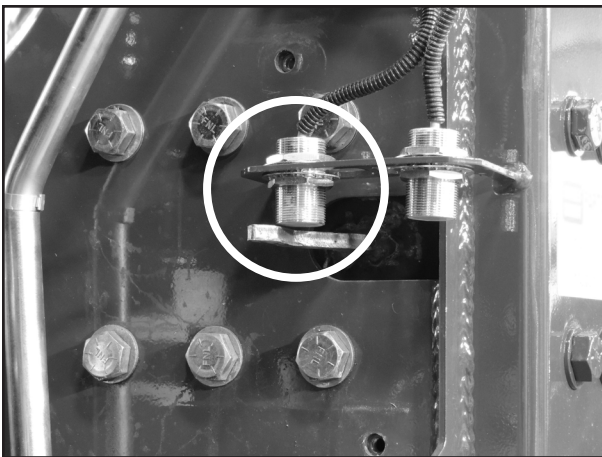

Figure 4
7. Using proximity switch wrenches to remove one proximity switch (as shown in Figure 4). Retain the proximity switch for reinstallation. The second proximity switch does not need to be removed because it is not in the path of the bolts.